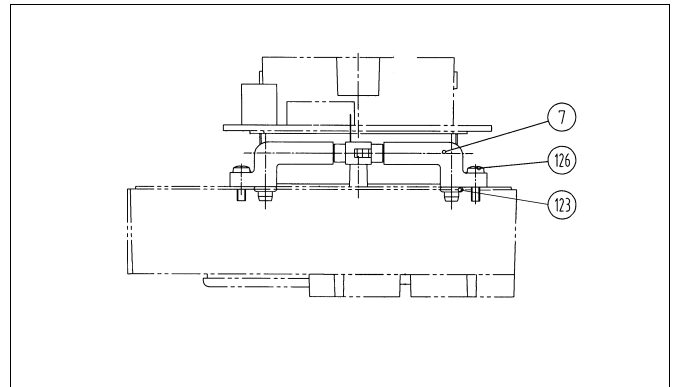

Fig. 16. Pressure sensor
- Mount the O-rings (123, 2 pcs.) in their grooves in the housing. Push the pressure sensor back into place, guided by the O-rings. The final location is shown in Fig. 16. Tighten the M3 screws evenly.